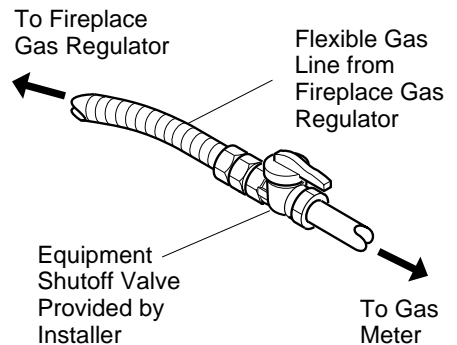

Figure 19 - Attaching Flexible Gas Lines Together
NOTICE: Most building codes do not permit concealed gas connections. A flexible gas line is provided to allow accessibility from the fireplace (see Figure 19). The flexible gas supply line connection to the equipment shutoff valve should be accessible.
4. Attach the flexible gas line to gas supply (see Figure 19). Check tightness of flexible gas line attached to gas regulator of fireplace (see Figure 19).